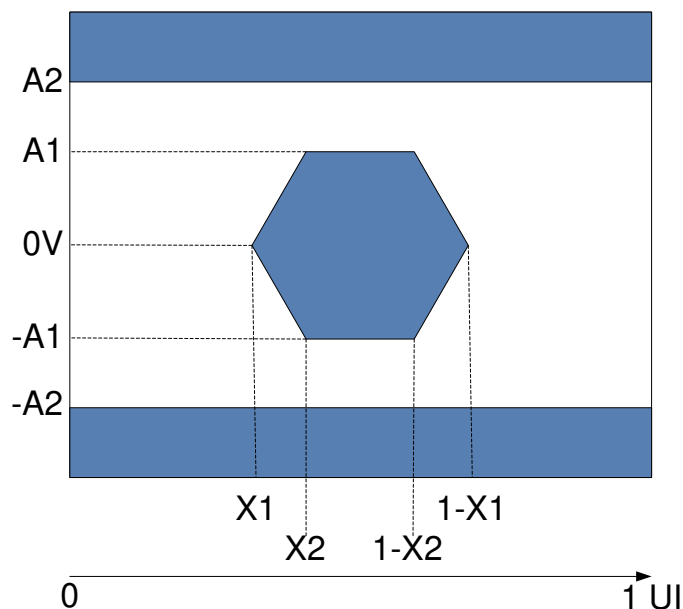

Figure 5-12. HSSI Eye Characteristics
(1) All power supply connections are required to operate the DMD: V_{DD} , V_{DDA} , V_{OFFSET} , V_{BIAS} , and V_{RESET} . All V_{SS} connections are required to operate the DMD.
(2) All voltage values are with respect to the ground pins (V_{SS}).
(3) To prevent excess current, the supply voltage delta $|V_{DDA} - V_{DD}|$ must be less than specified limit.
(4) To prevent excess current, the supply voltage delta $|V_{BIAS} - V_{OFFSET}|$ must be less than specified limit.
(5) Supply power dissipation based on three global resets in 200μs.
(6) LVC MOS input specifications are for pin DMD_DEN_ARSTZ.
(7) LVC MOS output specification is for pins LS_RDATA_A and LS_RDATA_B.
(8) Refer to Figure 5-12 (1e-12 BER).
(9) Defined in the *Recommended Operating Conditions*